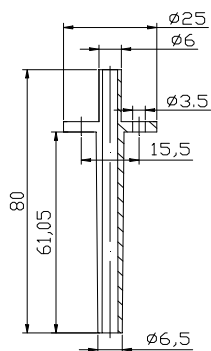
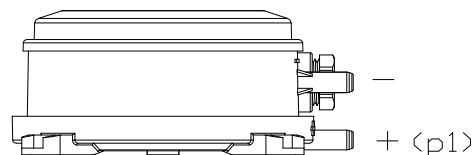

Fig. 5
Fig. 7
1. Insert the 2 pressure connection parts as Fig. 5 or 6 with the long side (60mm) into the prepared holes. Each part should be installed with 2 screws. Be sure to seal the holes after installing to keep the holes airtight.
2. Connect the plastic tube. The standard accessory is 2m long with inner $\phi 6\text{mm}$. Cut the tube as short as possible to connect the ports P1/"+" & "-" on the switch and the other side of accessory of 1003 or 1009 as Fig. 5 or 6. P1/"+" is high port on the bottom of the switch and "-" is low port on the switch body as Fig. 7.